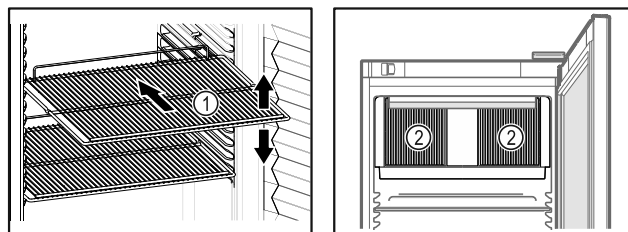

Fig. 60 Example illustration Fig. 61
- If there are adjustable shelves Fig. 60 (1), position them as required.